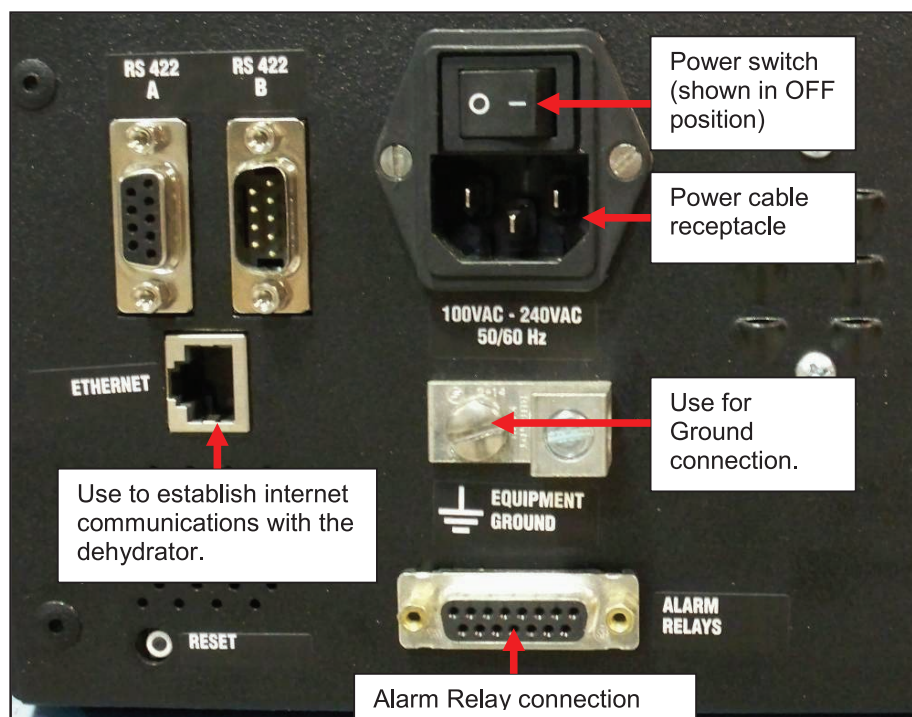

FIGURE 6. ADH NETCOM AC Version Rear Panel Detail.
5. Prior to connecting the unit power cable, first ground the chassis by connecting the ground lead to the Equipment Ground terminal on the back of the unit. Refer to Figure 6. The three-prong power cable (on AC units) also provides ground protection, but this connection provides redundant ground protection for increased safety.